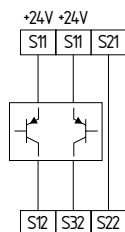

Fig. 10
**Dual-channel control of a safety-related electronic (microprocessor-based) safety guard with p-type transistor outputs e.g. AOPD's to EN 61496 (see Fig. 10)**